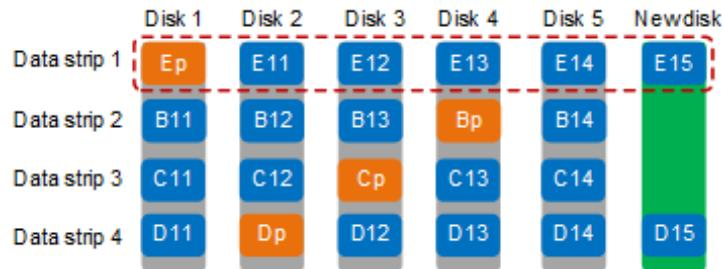

Figure 3 Overwriting when the hard disk space is used up
- When the hard disk space is used up and the overwriting condition is triggered, the system reclaims the recording data in data strips 1, 2, and 3 in sequence. New recording data is stored in data strips 1, 2, and 3 in sequence, as shown in Figure 3.